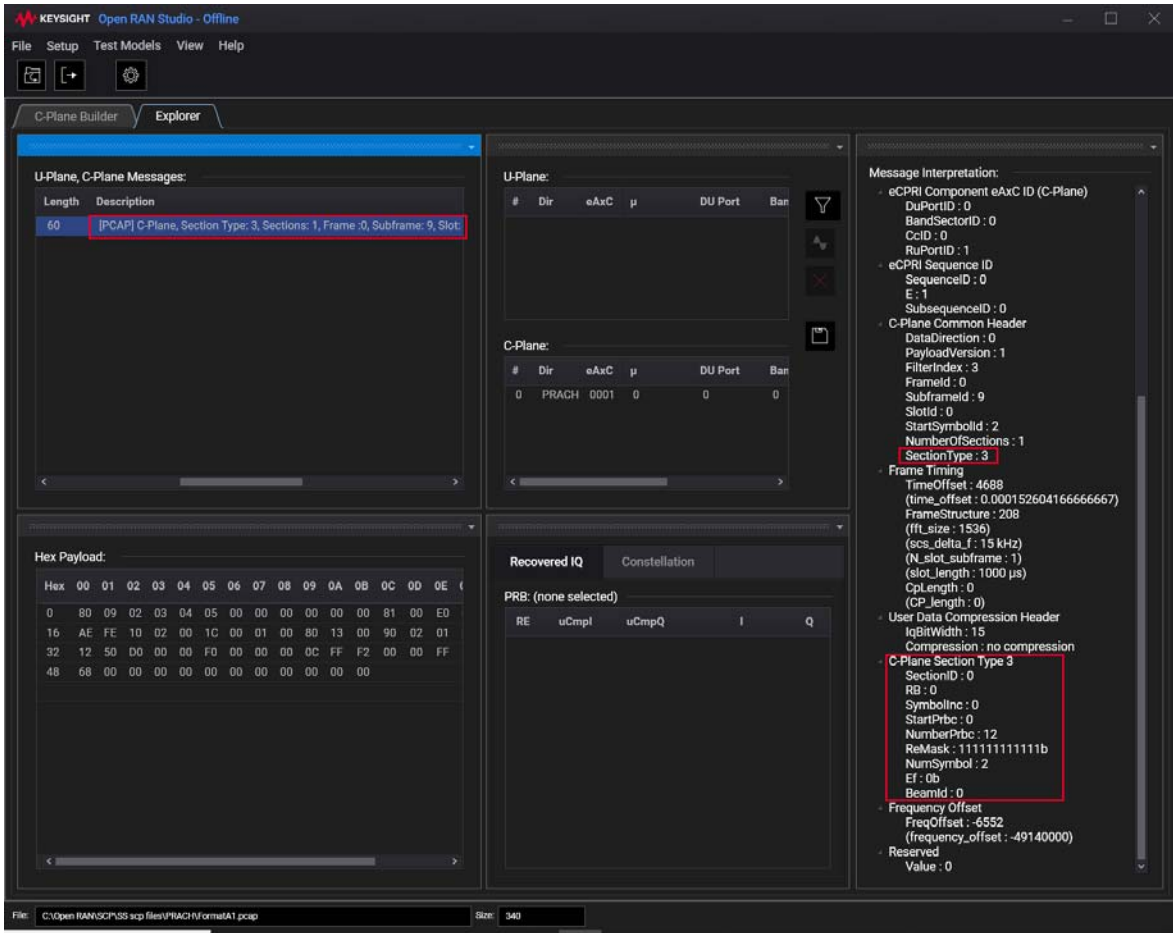

Figure 162 Loading PCAP file with the PRACH sequence
Open RAN standard uses C-plane Section Type 3 for PRACH. As seen in Figure 162, the U5040A Open RAN Studio software currently supports a single C-plane message for each PRACH burst. Each PRACH sequence repetition is considered as a separate symbol. PRBs are numbered from '0' for each burst.
- 1 Load the stimulus / recording PCAP file into O-RAN Studio that contains Section Type 3 C-Plane messages for the PRACH carrier. See Figure 162.